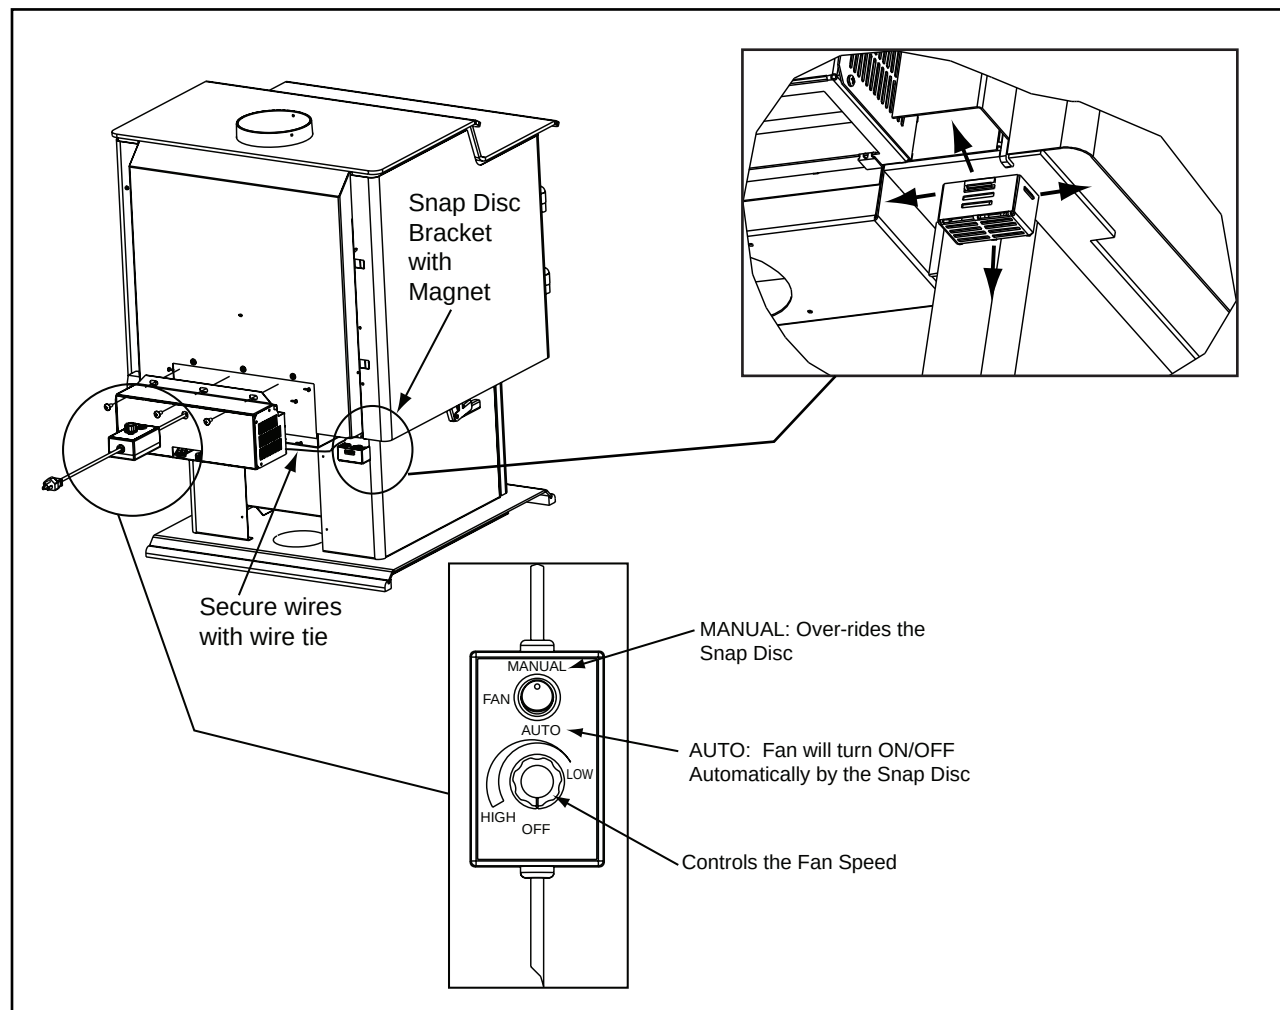

Figure 45.1
1. Align holes in mounting flange of blower with bolt holes in appliance. Blower should be positioned at bottom of rear outer skin as shown in **Figure 45.1**.
- 3 Place the bracket containing the snap disc and magnet under the bottom left rear corner as shown in **Figure 45.1**.